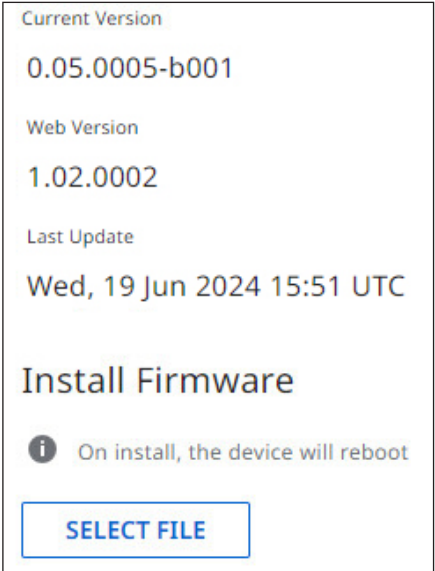

Figure 54. Firmware Panel
1. In the Firmware panel, click the **SELECT FILE** button (see figure 54).